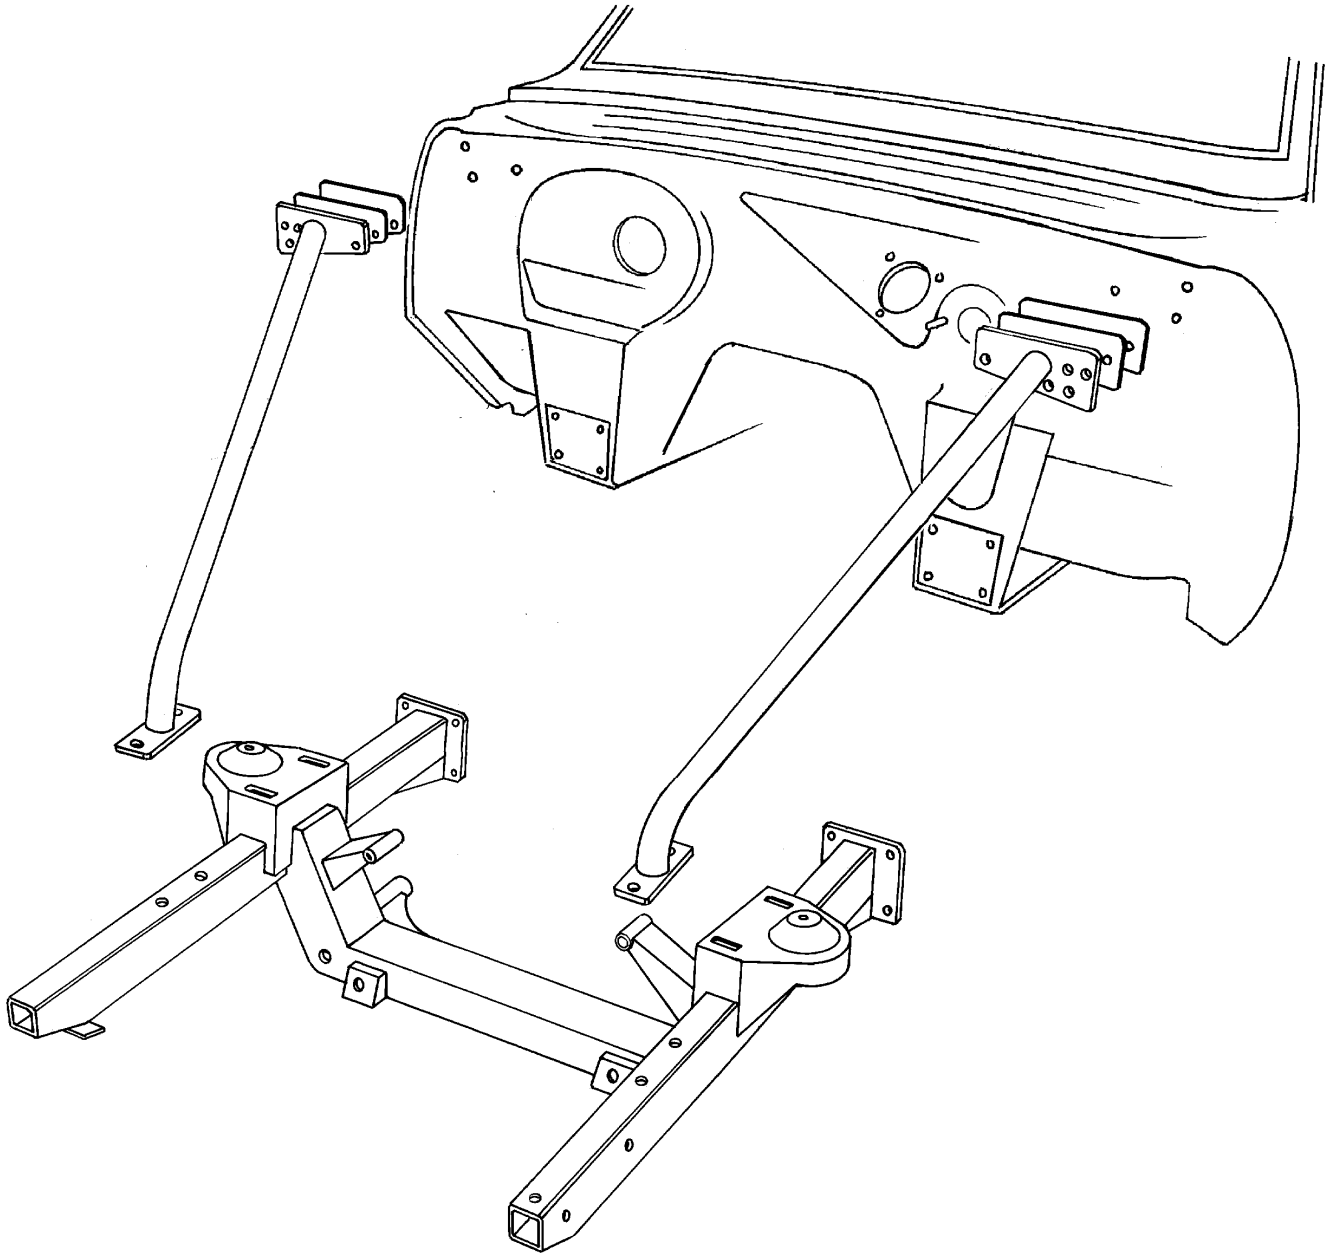

FIGURE 1
2. Start the installation of the new sub-frame by raising it up into place in front of the firewall. See Figure 1. A floor jack will help here. Line up the holes to the holes in the firewall and bolt it on using the original bolts and lock washers. Tighten up the bolts. Next install the upper firewall support tubes from the front rails to the mounting surfaces on the firewall, using the original inner fender panel bolts. If there is a gap here, you can install some of the shims now, or bolt it tight and wait until the fenders are reinstalled to determine the correct shims for the final sheet metal alignment.